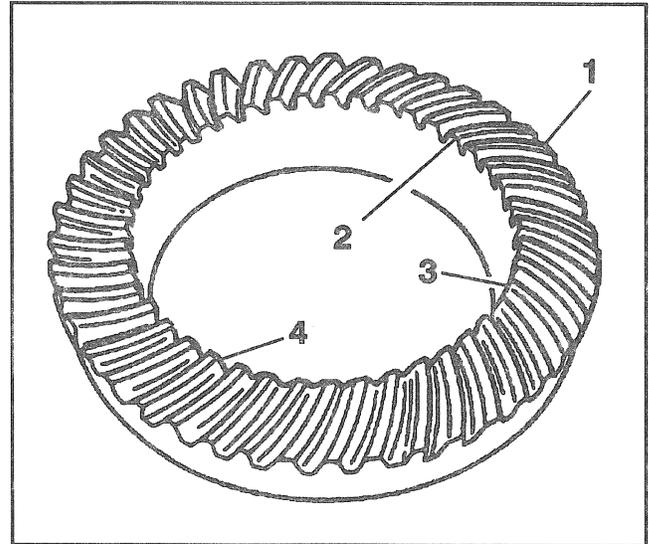

Figure 29—Gear Tooth Nomenclature
The side of the ring gear tooth which curves outward, or is convex, is referred to as the “drive” side (4). The concave side is the “coast” side (3). The end of the tooth nearest the center of ring gear is referred to as the “toe” end (2). The end of the tooth farthest away from the center is the “heel” end (1). The toe end of the tooth is smaller than the heel end (Figure 29).